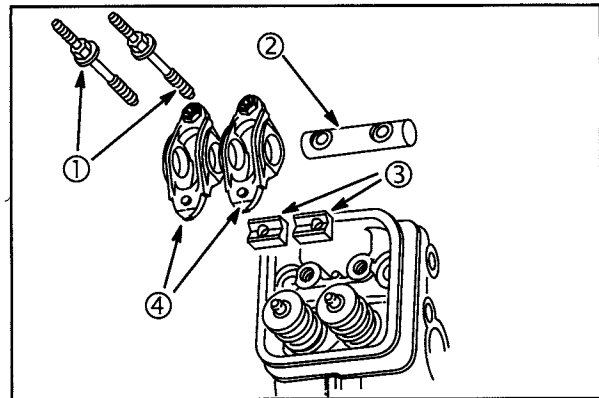

**Fig. 21**
1. Lubricate rocker arm supports (2) with clean engine oil.
2. Assemble rocker studs (1), rocker arm supports and rocker arms (3) to cylinder head, **Fig. 21**. Torque studs to **100 in. lbs. (11 Nm)**.